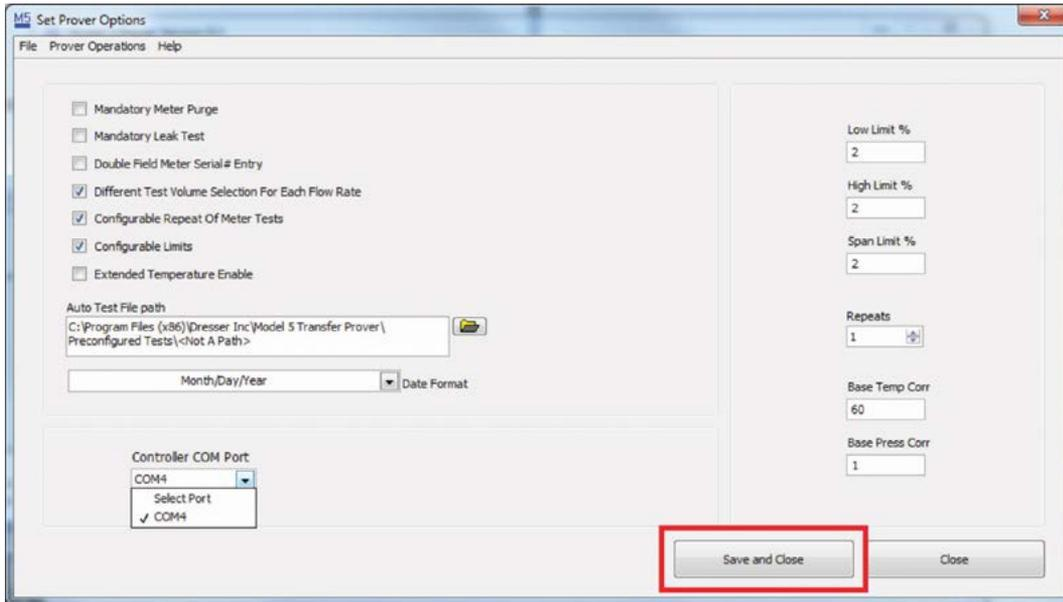

Figure 67: Save and Close Selection
4. Select "Save and Close," as shown in **Figure 67**, to save existing changes prior to closing the screen or changes will be lost. Changes made will only affect test(s) configured after changes are saved. Any previously saved test(s) will be unaffected.